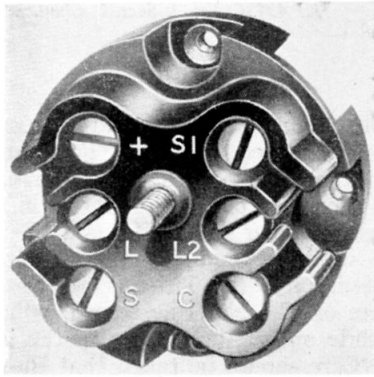
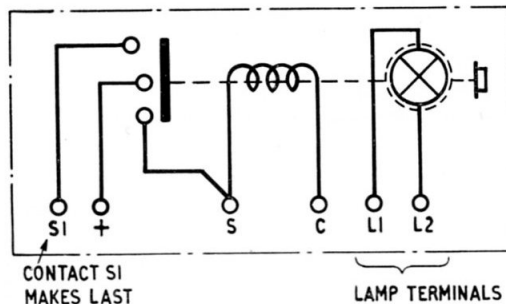

Fig. 4. Terminal block moulding
Fig. 5. Circuit diagram
5. When the plunger is depressed, the contact sleeve makes contact with three leaf spring contacts, two on the inboard end of the terminals marked S and S1, to which the ends of the solenoid coil are attached, and one on the terminal for the positive supply. A circuit diagram is given in fig. 5, and a view of the terminal block moulding, in fig. 4.